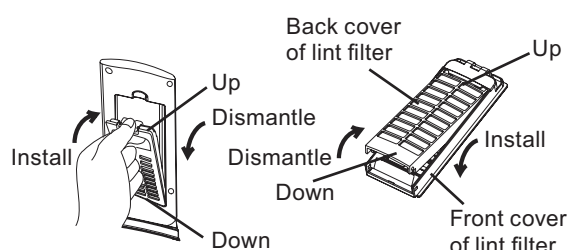

Figure 1
1. Push down the spring piece of the top lint filter to make the claws out of the filter cover, and then pull out the lint filter to get it down. (figure1)